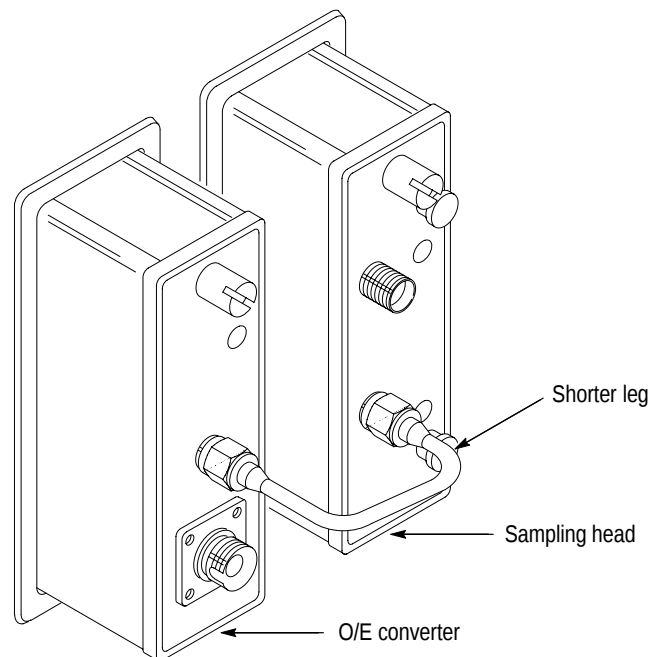

Figure 2: Using the rigid connector
NOTE. For the best performance, connect the SD-44 Optical-to-Electrical Converter to the input of the sampling head using the rigid connector provided. The sampling head must be in the compartment immediately to the right of the O/E converter. See Figure 2.
- a. Use the rigid connector if possible and install the shorter leg of the connector on the sampling head. See Figure 2.